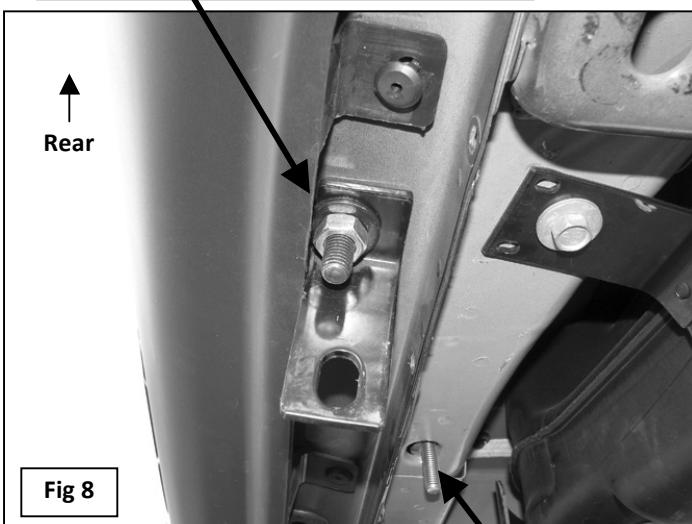

Fig 8
5. Move to the driver side rear of the vehicle and remove the rubber plug in the bottom of the rocker panel as described in **Step 2**. Insert (1) 12mm Bolt Plate into the oval hole and rotate 90-degrees to the slot. Select (1) Driver Side Outer Support Bracket and secure it to the Bolt Plate with (1) 12mm Lock Washer, (1) 12mm x 20mm Small Flat Washer and (1) 12mm Hex Nut, (**Figure 8**). Locate the oval hole in the floor panel on the other side of the pinch weld, forward of this location, (**Figure 9A**). Insert (1) 10mm Large Bolt Plate into the hole and rotate 90-degrees to the oval hole, (**Figure 9B**).